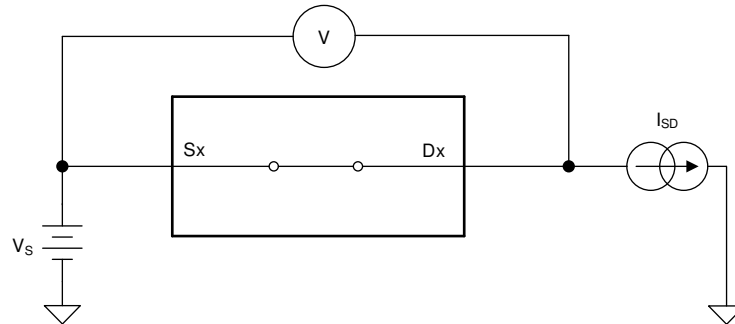

图 27. On-Resistance Measurement Setup
The on-resistance of a device is the ohmic resistance between the source (Sx) and drain (Dx) pins of the device. The on-resistance varies with input voltage and supply voltage. The symbol R_{ON} is used to denote on-resistance. The measurement setup used to measure R_{ON} is shown in 图 27. Voltage (V) and current (I_{SD}) are measured using this setup, and R_{ON} is computed as shown below with $R_{ON} = V / I_{SD}$: